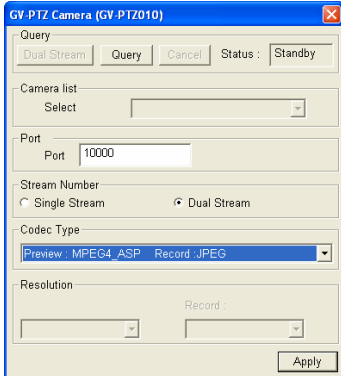

Figure 7-4
- The GV-System will automatically query for the IP camera, and the status will be indicated as "Standby". If not, modify the HTTP port (Figure 7-3) and streaming port (Figure 7-4) to match those of the IP camera, and click the **Query** button to detect the IP camera again.